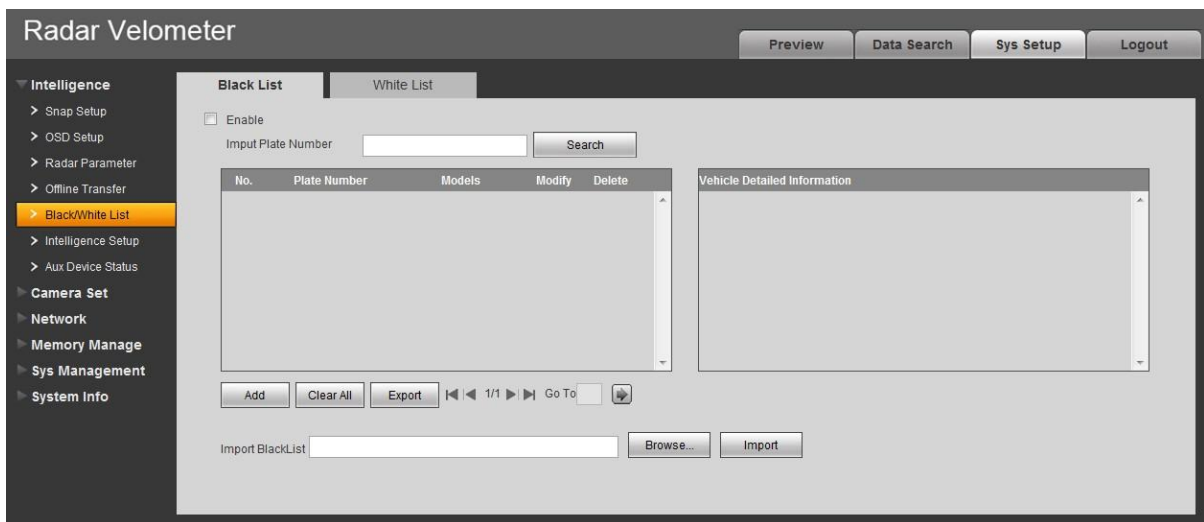

Figure 4- 19
Step 1. Select ITC>BW List. See Figure 4- 9.